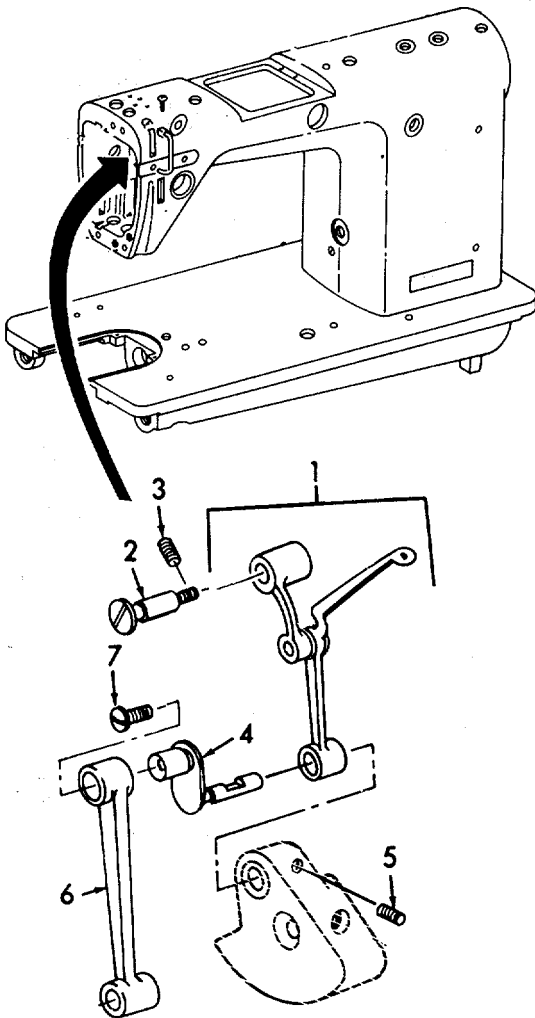

Figure 6-73. Needle Bar Linkage, Installation.
- (9) Refer to Figure 6-73. Install lever assembly (1), stud screw (2), and setscrew (3).
- (10) Install crank (4) and two setscrews (5).
- (11) Install crank rod (6) and left-hand threaded screw (7).